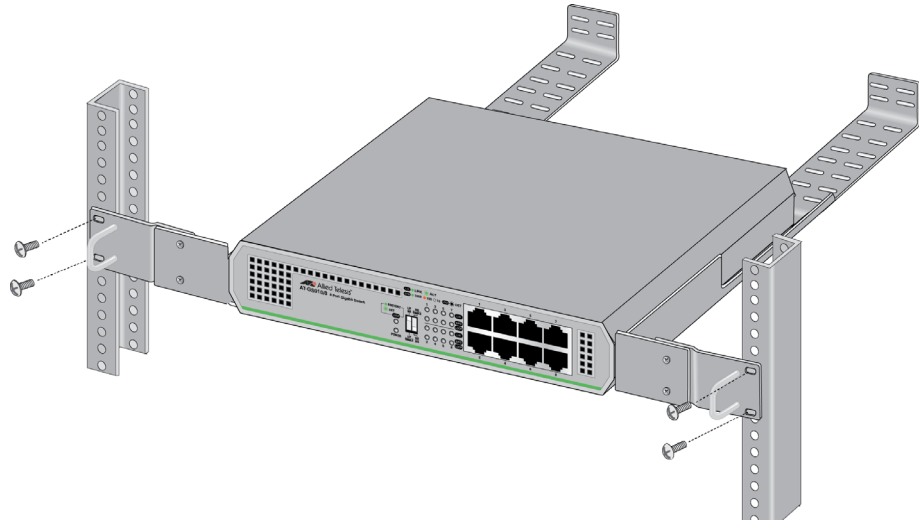

Figure 38. Attaching the Switch to Equipment Rack
7. Mount the switch in a standard 19-inch equipment rack with four equipment rack screws as shown in Figure 38 on page 63.